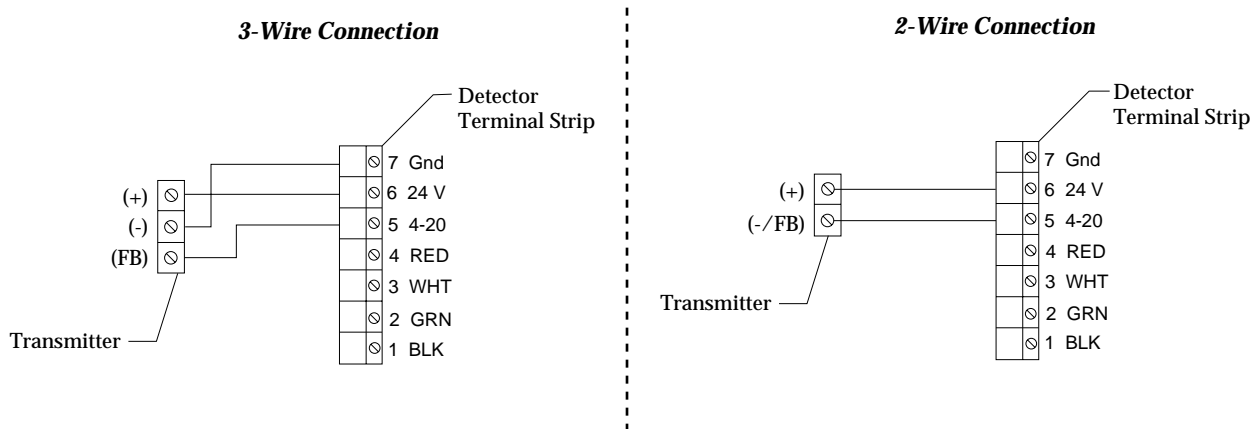

Figure 3-7: Generic 4 to 20 mA Transmitter Output Wiring
3. Connect the wires to the detector terminal strip of the applicable analyzer card as shown in Figure 3-7. The detector is the 7-point terminal strip (terminals 1 through 7) on the card.